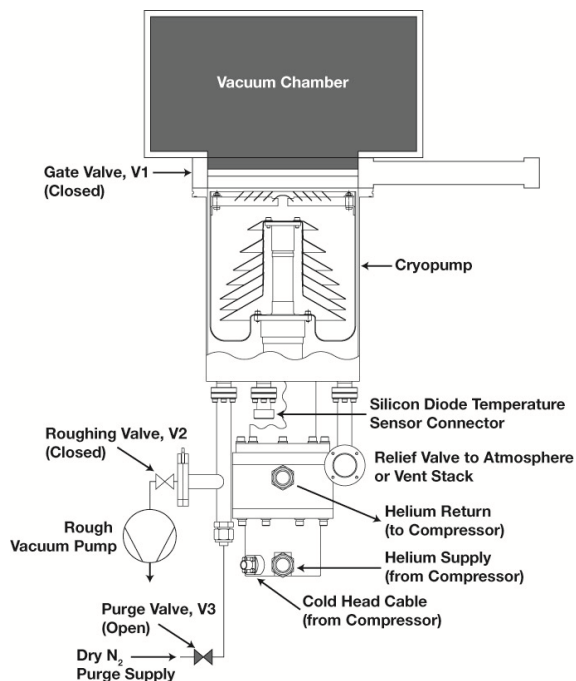

Figure 12 Warm Up and Purge the Cryopump
The cryopump should be mounted to a gate valve attached to the vacuum chamber so that the cryopump can be isolated and left running while the pressure in the main vacuum chamber cycles from atmospheric to crossover pressure. See Figure 12.
2. Connect purge valve (V3) and nitrogen purge supply to the purge port of the cryopump. See Figure 12. The purge gas must be clean, dry nitrogen. The nitrogen supply must provide 2 to 6 scfm.
1. See Figure 12. Close the gate valve to isolate the cryopump from the main vacuum chamber.